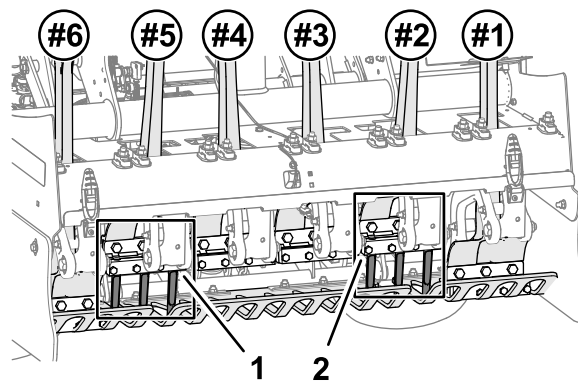
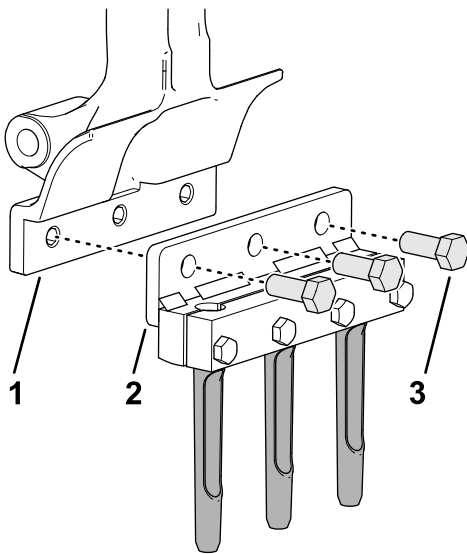

Figure 42
Figure 43
1. Loosely assemble tine holder and tines to tine arm #2 (Figure 42 and Figure 43) with 3 bolts (1/2 x 1-1/4 inches).